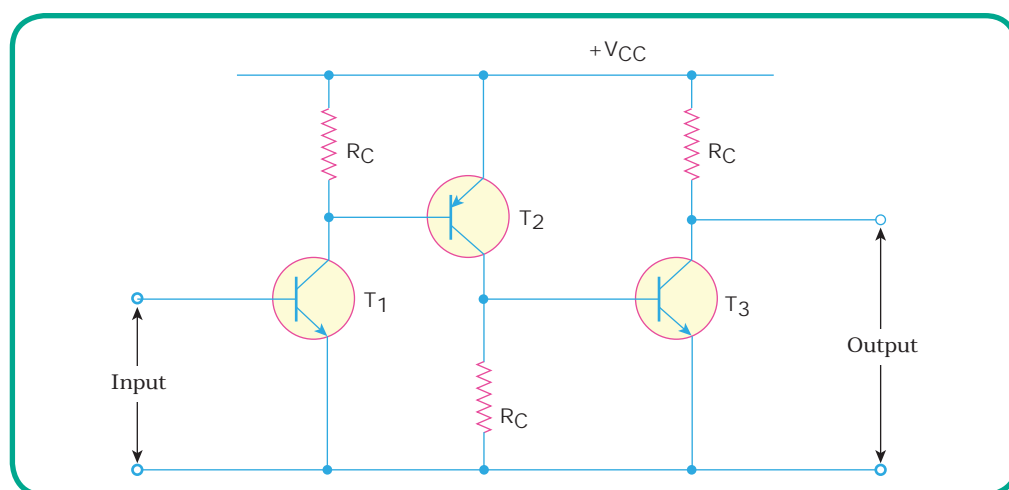

Figure 5.24 Stages of Direct Coupled Amplifier
**Circuit details:** Figure 5.24 shows the circuit of three stage direct coupled amplifier. It uses complementary transistors. Thus, the first stage uses npn transistor, the second stage uses pnp transistors and so on. This arrangement makes the design very simple. The output from the collector of first transistor  $T_1$  is fed to the input of the second transistor  $T_2$  and so on.